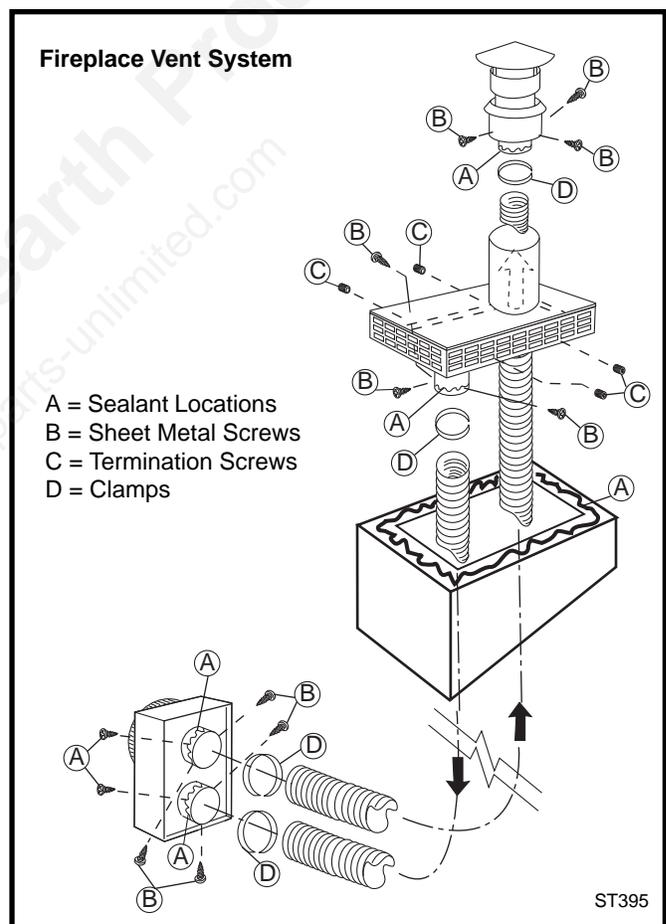

Fig. 42 Fireplace vent system installation.
**Note:** The collar extending down from the Termination base is the air intake collar. Use the flex vent liner, marked with a **blue line**, to connect between this collar and the *lower* flue collar on the Transition Connector. Also make sure the other flex vent liner is attached to the upper Transition Connector collar and the Rain Cap. (Fig. 42)
6. Apply high-temperature sealant to the top of the chimney. Feed the two liners down through the chimney flue and damper opening. Fasten the termination assembly to the chimney with the four set screws (C) provided.